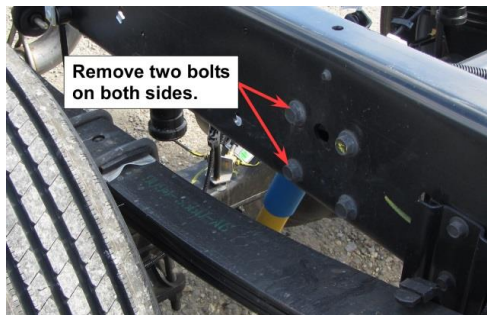

Figure 6. Remove Two Bolts from Both Sides of Vehicle
6. Remove the two bolts from the tubular crossmember as shown in Figure 6.